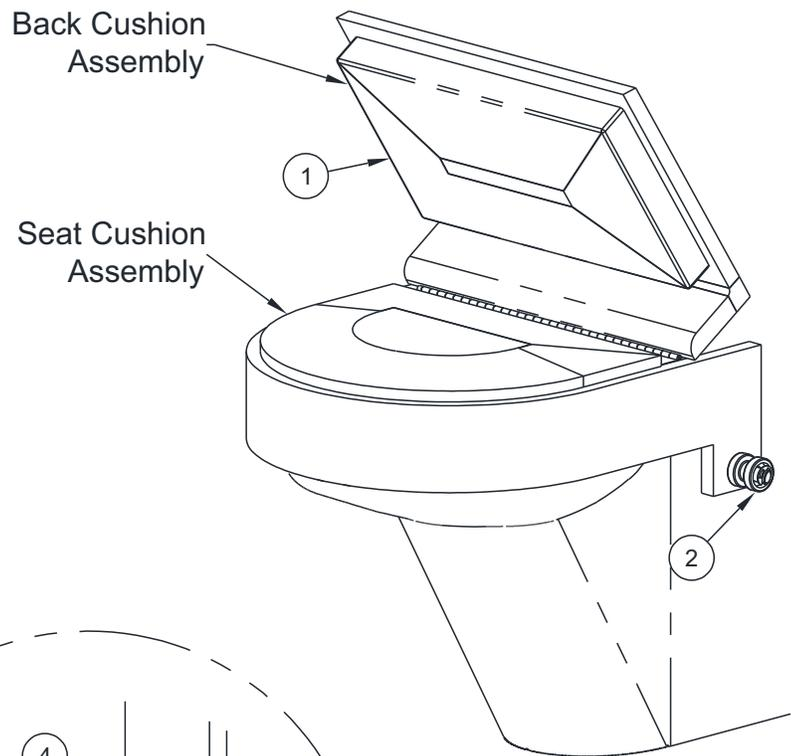

FIGURE 1.
- B. Install Toilet [3] and Flush Valve [4] with the Toilet spacer [1]. **FIGURE 1**